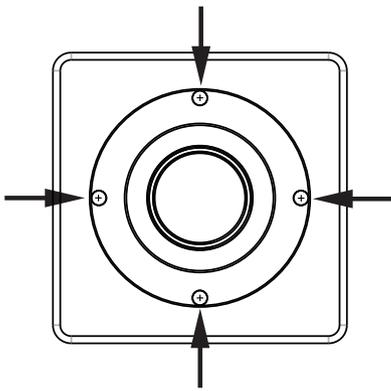

Figure 2.1: Crosshead screws that hold the lensmount (front view of the camera).
2. Remove the lensmount by unscrewing the 4 crosshead screws that hold the lensmount (see figure 2.1)